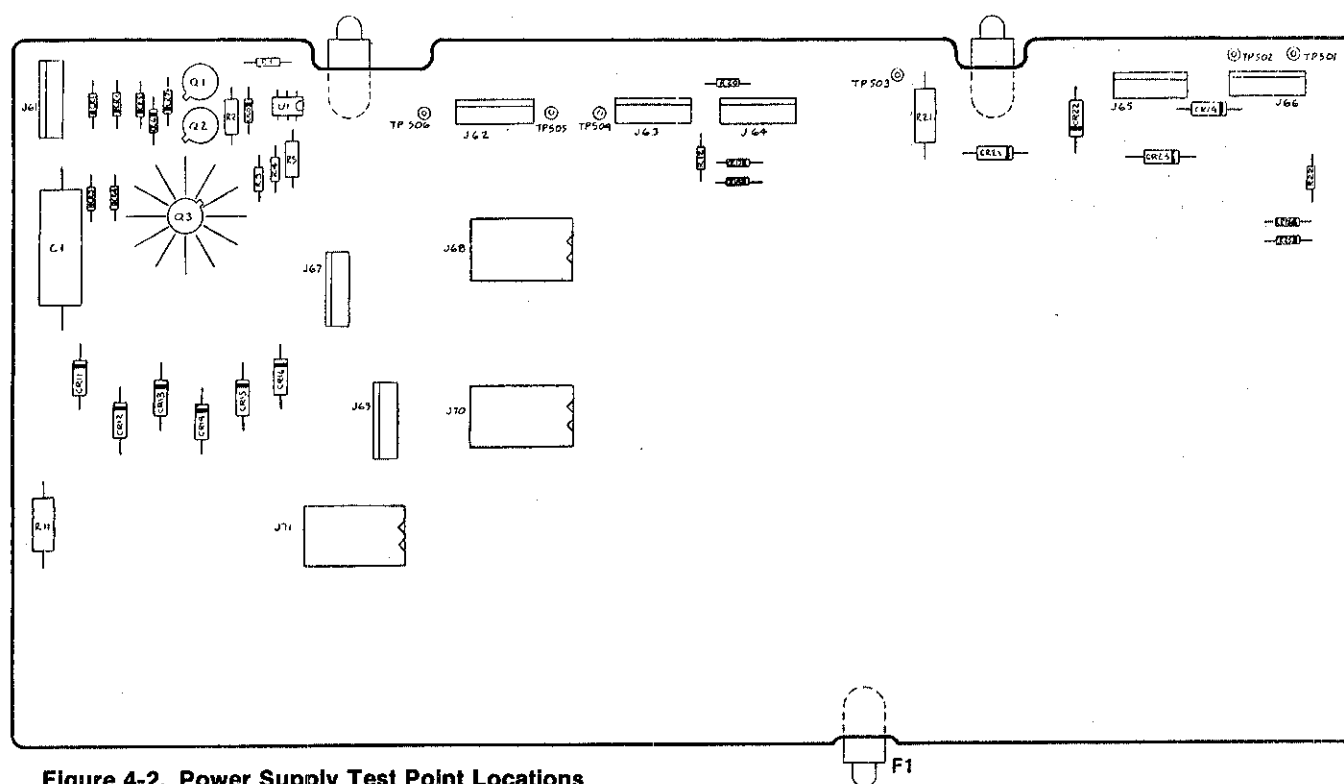

Figure 4-2. Power Supply Test Point Locations
- d. As a safety precaution, insure no stray voltages are present in the power supply, shorting TP501 to TP502, TP504 to TP506 and TP505 to TP506. These test points are on the power supply PCB and their locations are shown in Figure 4-2.